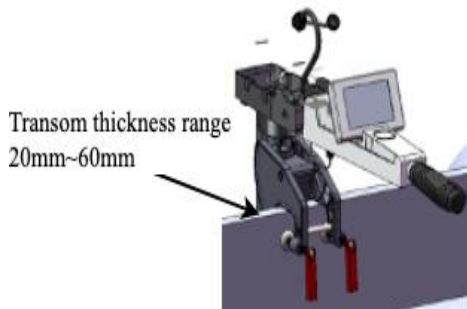

Figure 2-1
1. Use the electric outboard main unit to hang on the transom mounting plate. Refer to Figure 2-1.